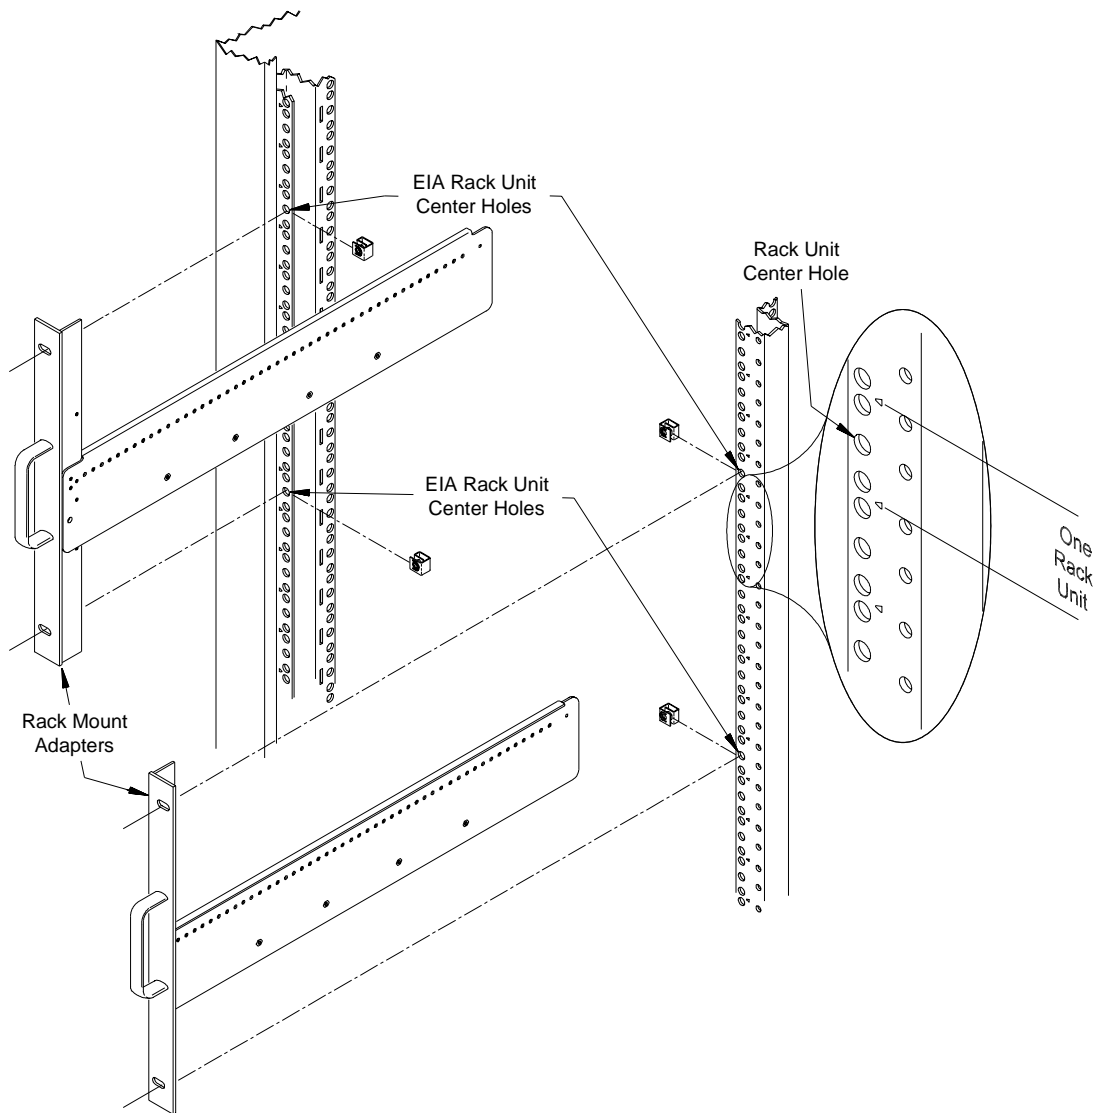

Figure 2-2. Positioning the Mainframe in the Rack
- Using the rack mount adapters as templates, position the adapters on the rack's vertical rails where the mainframe is to be mounted. Align the adapter holes over the "center" holes of the EIA rack units (Figure 2-2).